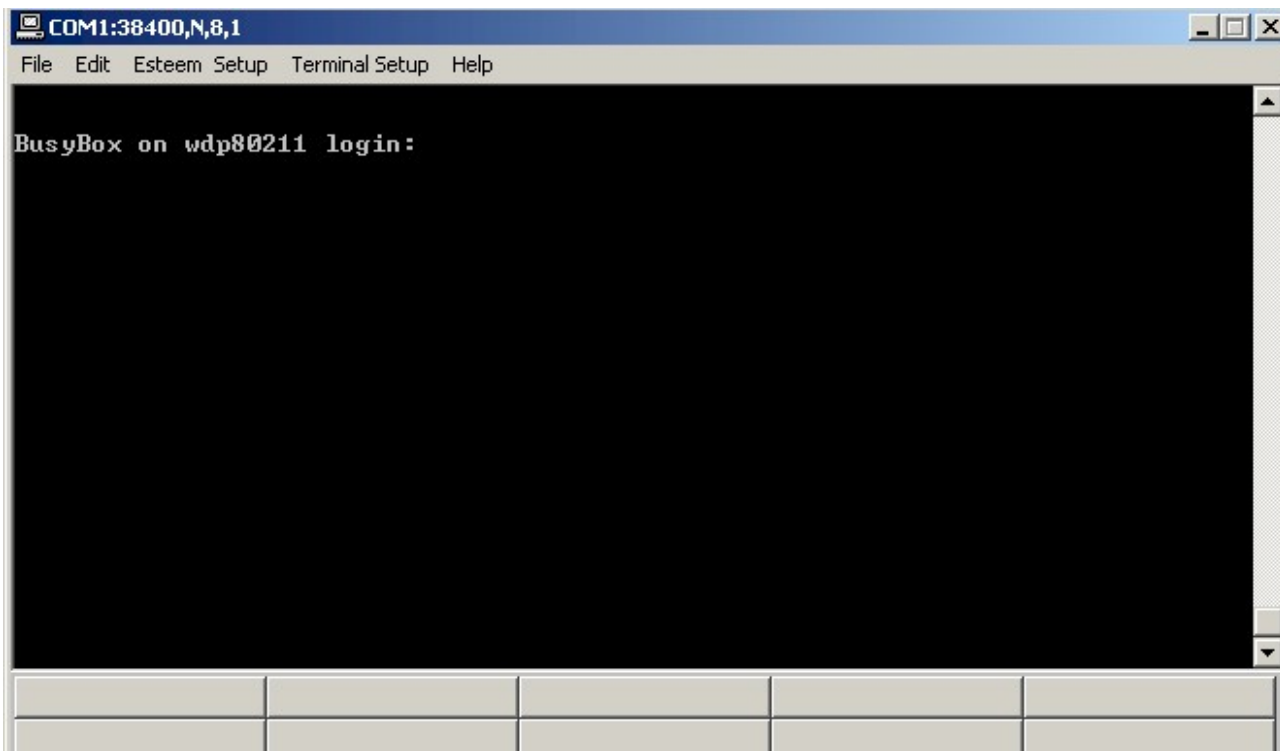

Figure 10: RS-232 Port Log-in Screen
6. Press the Enter key and you will be at the Configuration Menu 195Ep login prompt. See Figure 10.